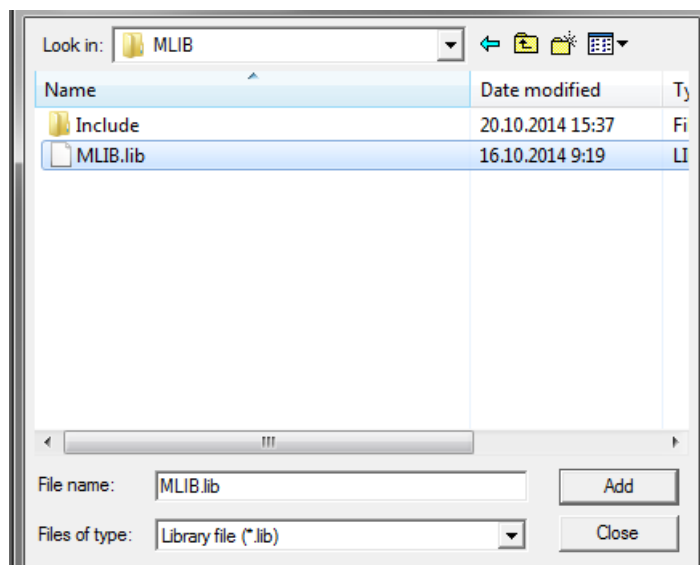

Figure 1-30. Adding .lib files dialog
5. Navigate to the parent folder C:\NXP\RTCESL\CM4F_RTCESL_4.5_KEIL\MLIB, and select the *mllib.lib* file. If the file does not appear, set the Files of type filter to Library file. Click Add. See Figure 1-30.